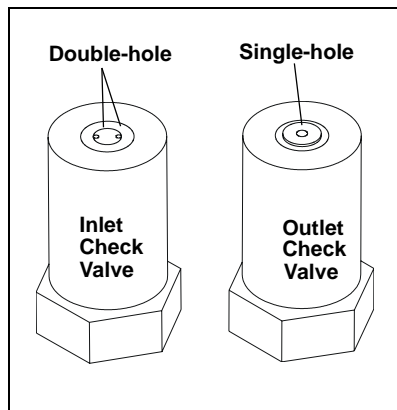

Figure 5-4. Pump Heads
4. Disconnect the tube fittings from the inlet and outlet check valve assemblies on the primary pump head (see Figure 5-4).
3. Locate the open-end wrench (P/N 014605) provided in the ICS-1000 Ship Kit (P/N 057905). Use the wrench to remove the two acorn nuts (see Figure 5-4) from the pump head.